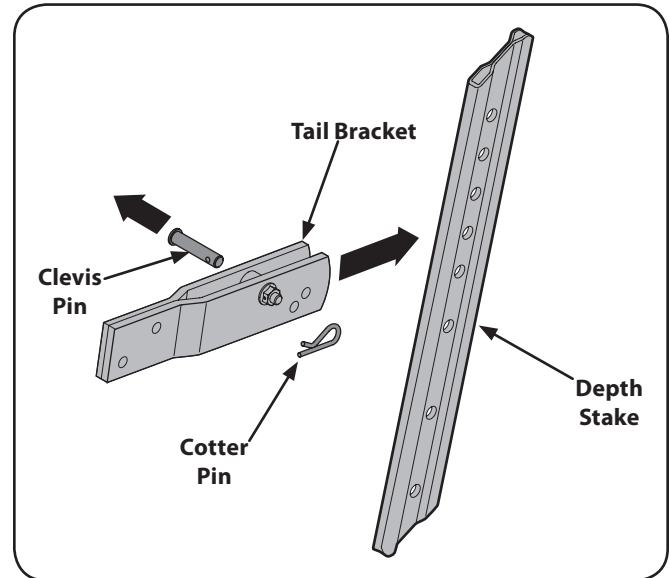

Figure 3-5
1. Disassemble the depth gage assembly as seen in Fig. 3-5. Retain the pin and clip for later reassembly.